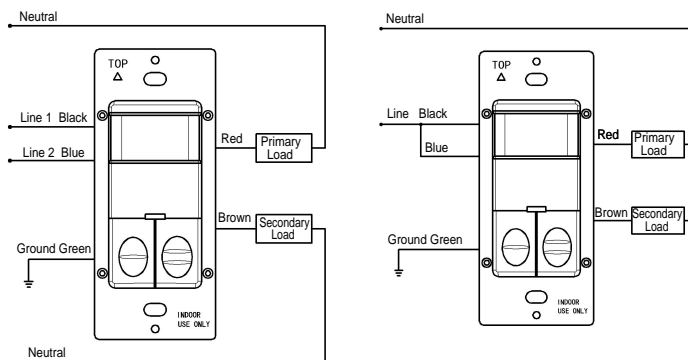

Figure 2
1. Connect lead wires as WIRING DIAGRAM (see Figure 2): Black lead to Line 1 (Hot), Blue lead to Line 2 (Hot), Red lead to Primary Load wire, Brown lead to Secondary Load, Green lead to Ground.